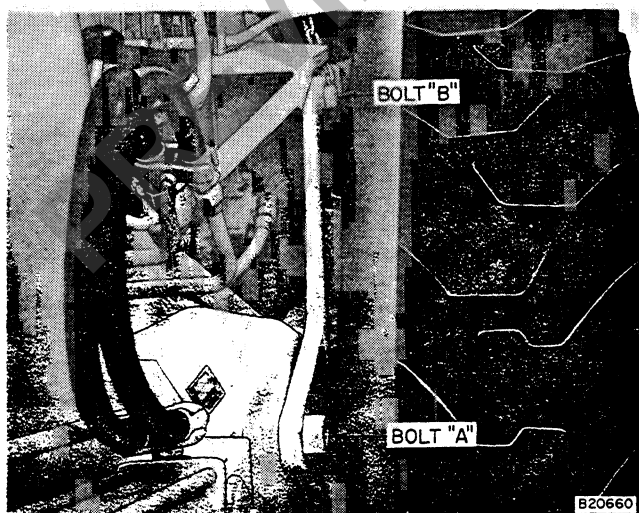

Figure 26 - Bolts to be Removed
3. REFERRING TO FIGURE 26: Remove bolts "A" and loosen bolts "B".